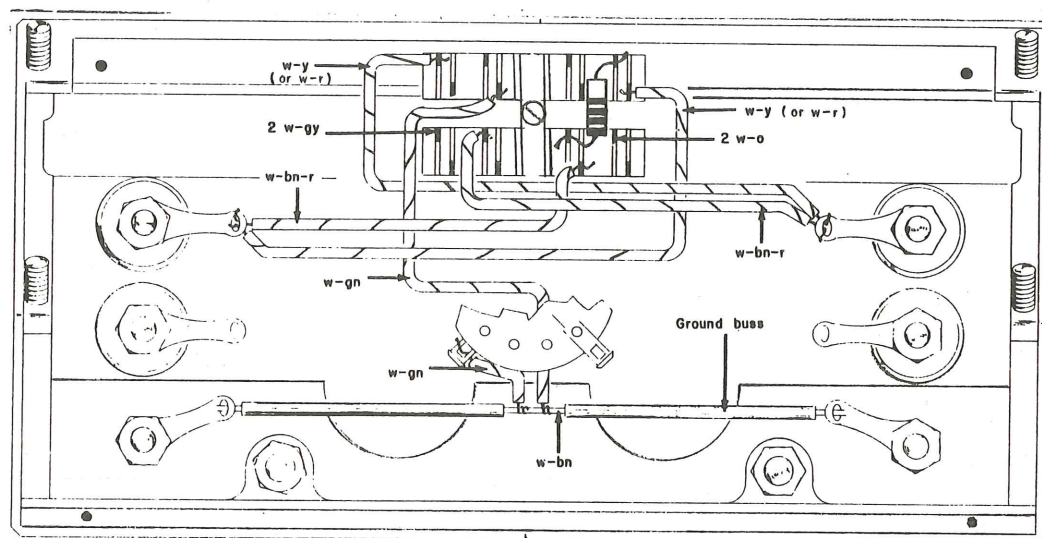

Fig. 2
- () 8. Add a ground lug, a buss wire and two lengths of plastic tubing (from kit) as shown in Fig. 2. (Disregard this step for instruments which already have a ground buss).
- () 9. Solder the 2 in. white-green wire from EMITTER GROUNDED - BASE GROUNDED switch to the center of the ground buss (see Fig. 2).
- () 10. Solder the 5 in. white-green wire (from kit) between the Transistor Selector switch and the center of the ground buss (see Fig. 2).
- () 11. Solder the two white-yellow wires (from kit) between the Transistor Selector switch and the collector test terminals, as shown in Fig. 2.
- () 12. Solder the remaining wires to the Transistor Selector switch, as shown in Fig. 2.
- () 14. Solder the white-brown wire to the ground buss, as shown in Fig. 2.